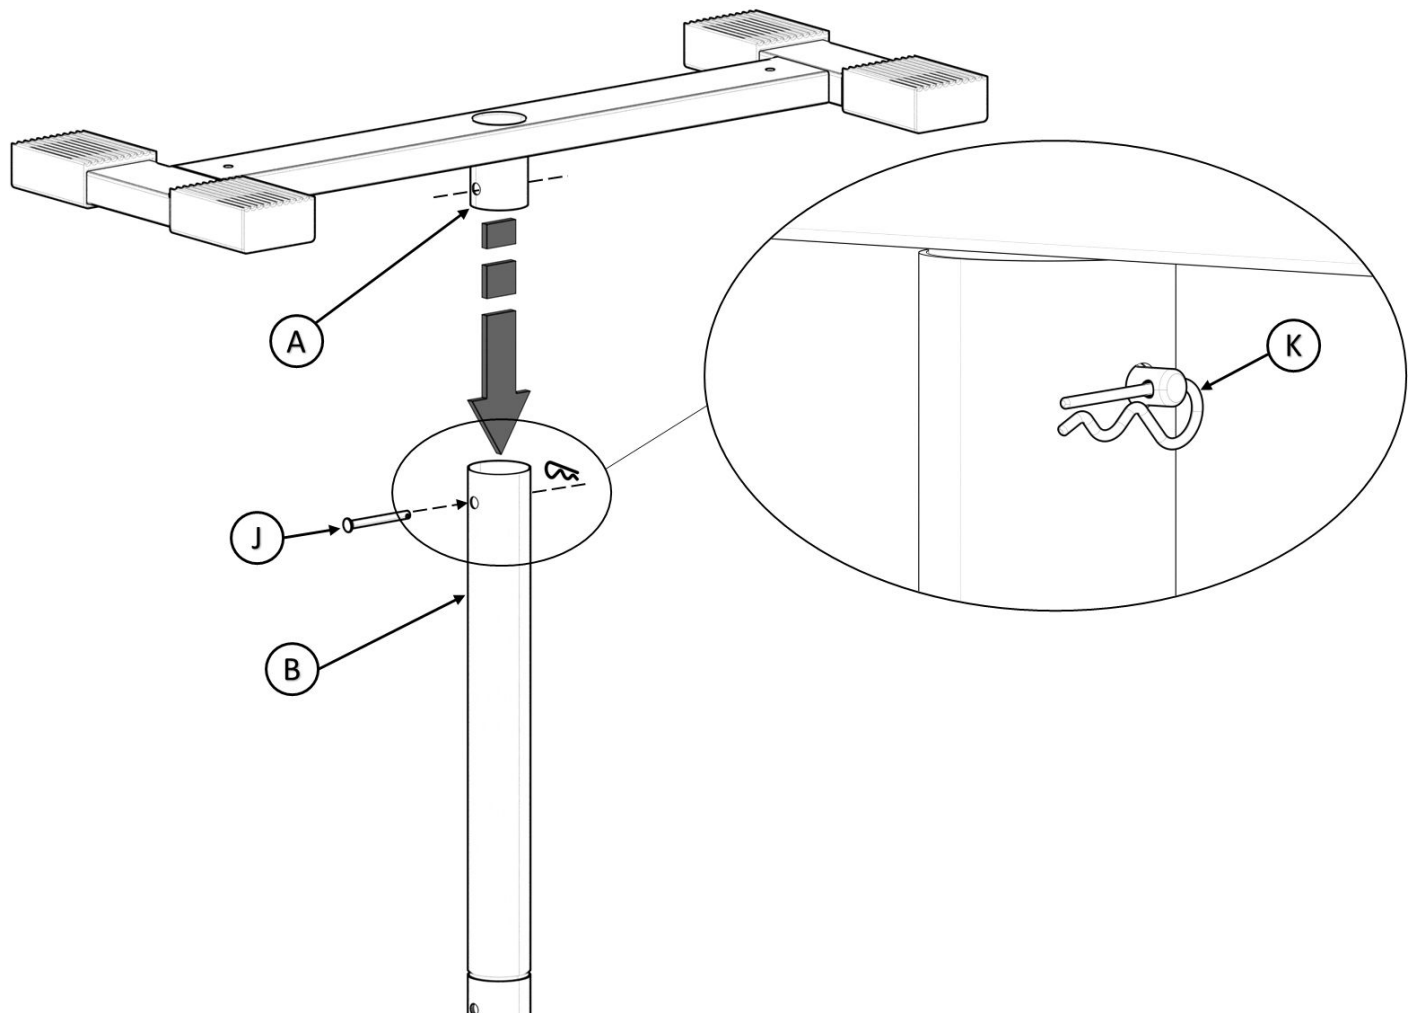

FIGURE 2
2. Insert **A** into **B**, align holes and insert **J** as shown in *FIGURE 2*. Insert **K** through **J** to secure.